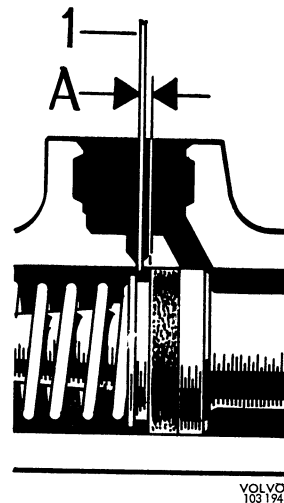

Fig. 5-53. Checking equalizing hole
- Check the movement of the pistons and that the through-flow holes are not blocked. The equalizing holes are checked by inserting a soft copper wire, diameter 0.5 mm (25 s.w.g.), see Fig. 5-53. If an equalizing hole is not clear, this means that the master cylinder is generally wrongly assembled.